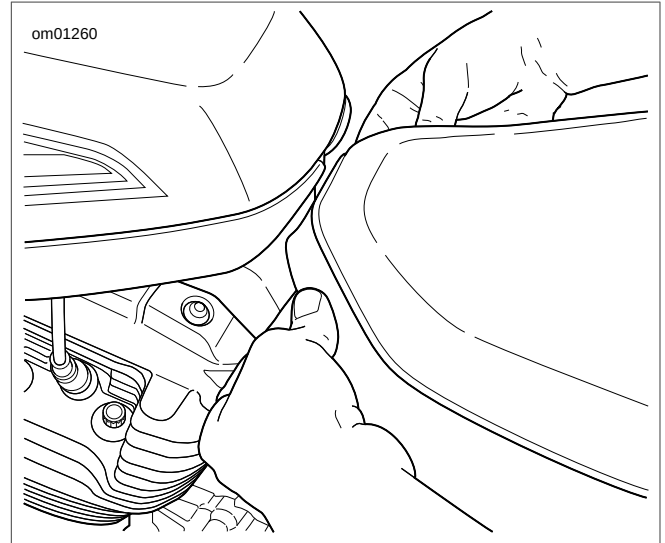

Figure 2-227. Front Seat Tabs (under tailsection): XR 1200X
1. See Figure 2-227. Reach under front end of tailsection. Press the two seat tabs inward.